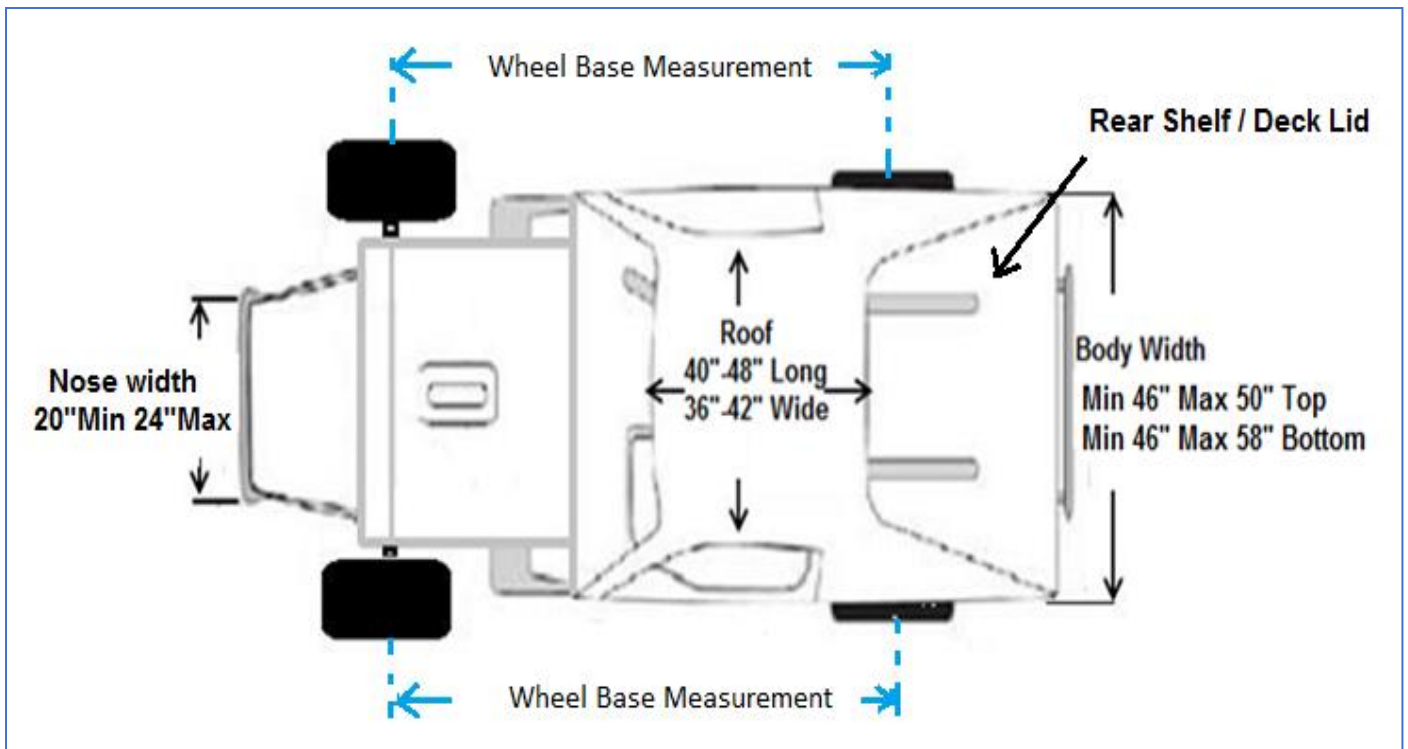

Figure 4
- **Deck Lid** means the horizontal flat panel behind the rear hoop that covers the differential and fuel tank. (Figure 4)
9.1 Roof panel length must be between 40 inches min to 48 inches max (No tolerance). Roof panel width must be 36 inches min to 42 inches max (No tolerance) (*Figure 4*). Sail panels are not part of the roof panel measurements.